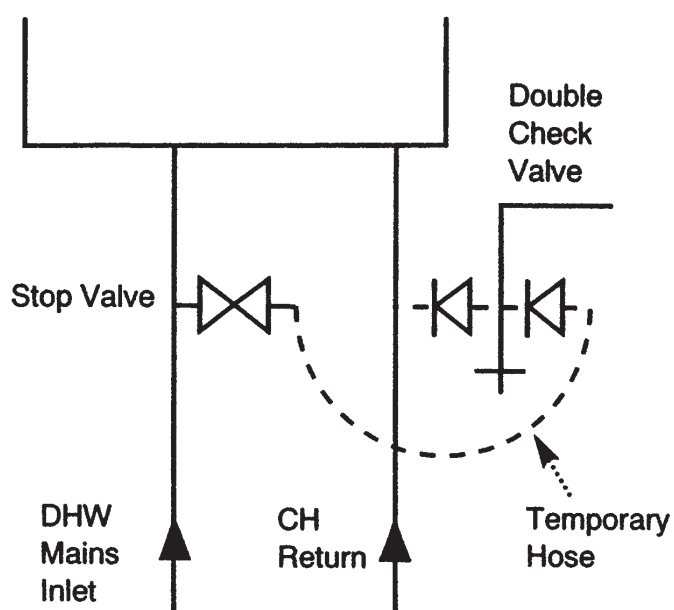

Fig. 7
- The appliance is equipped with an internal by-pass that operates with system heads (H) greater than 3 m. The maximum flow through the by-pass is about 300 l/h. If thermostatic radiator valves are to be installed, at least one radiator should be without a thermostatic valve (usually the bathroom radiator).
- A sealed system must only be filled by a competent person using one of the approved methods shown in fig. 7. The system design should incorporate the connections appropriate to one of these methods.